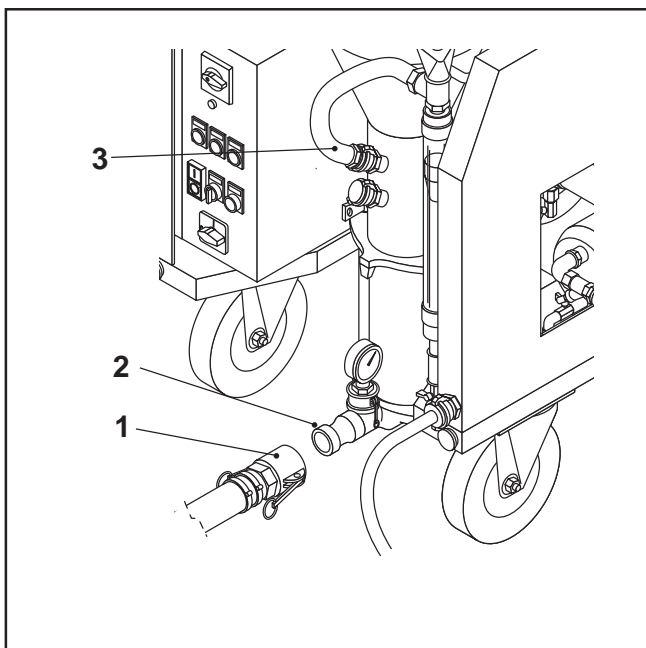

FIG.09
- Connect the material pipe (FIG. 09-REF.1) to the flow flange (FIG. 09-REF.2).
- Connect the water pipe to the quick-release coupling (FIG. 09-REF.3) present on the mixer chamber. It is normally connected to the upper connection.